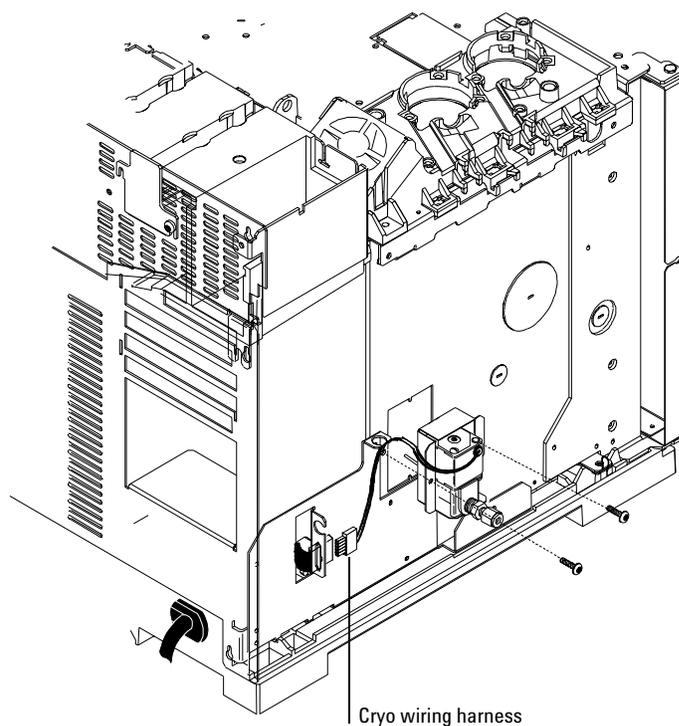

Figure 420-1 Attaching the valve box to the side of the GC (CO₂ valve shown)
4. Disconnect the cryo valve's wiring harness from the connector to the left of the valve (see Figure 420-1).
5. Remove the two Torx T-20 screws holding the old cryo valve and pull it straight out from the instrument (see Figure 420-1).